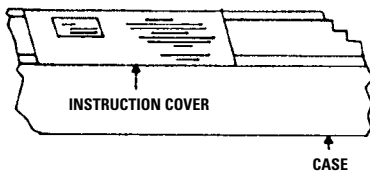

FIG. 1
2. Remove instruction cover plate (Fig. 1). Do not remove metal shipping brace (secures roller), wrapping paper, or tape strips until screen is installed.